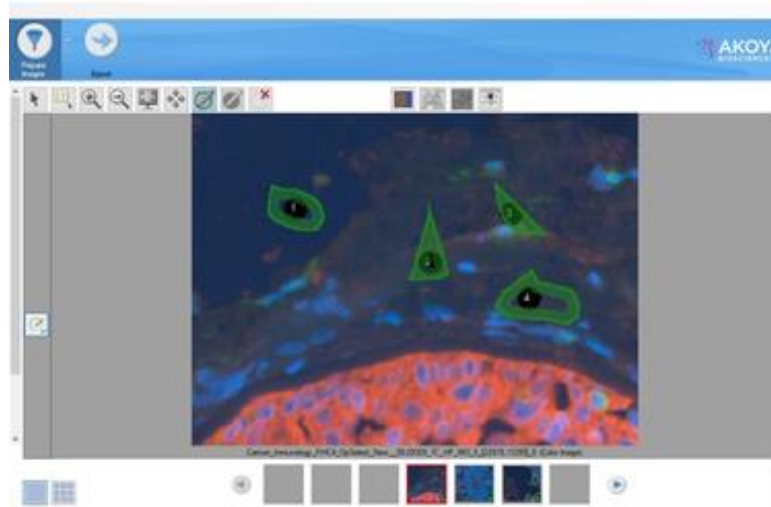

FIGURE 7.1. Image with processing regions drawn on it.
4. Click the Draw Processing Region icon, and then click and drag your mouse pointer around (encircle) the appropriate image area, making sure to release the mouse button to connect the starting point and ending point of the process region. (See Figure 7.1.)